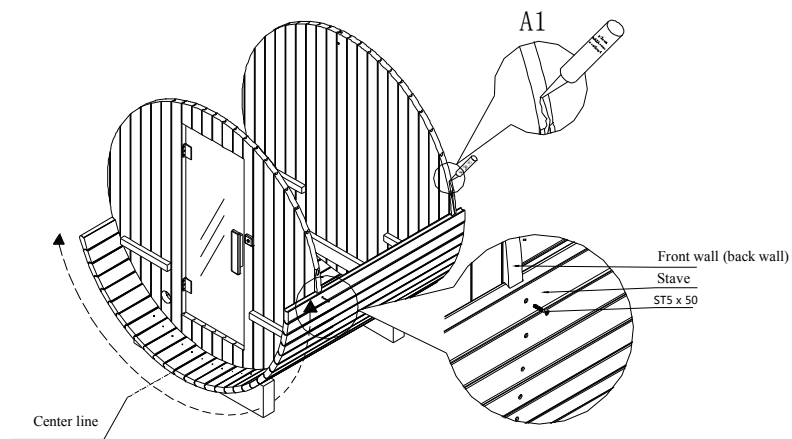

Figure6
- (1) Apply glass silicone sealant along the edge of front and back walls. Figure 6 A1 shows stave must be assembled before the glass silicone sealant dries.
- (2) Assemble the rest **staves with screw holes** to both sides of sauna bottom up until to the half of front and back walls. Tap each stave with a rubber hammer and fasten it to front and back walls with screws. (shown in Figure 6)